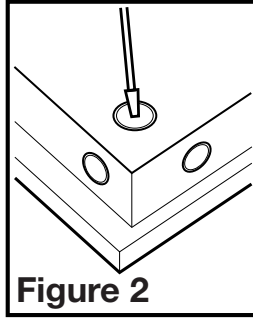

Figure 2
- Select the most convenient electrical knockout and remove using a straight-blade screw driver (**Figure 2**).